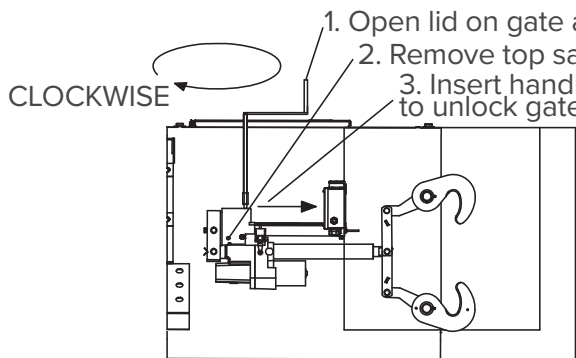

Figure 25
- 1. Unlock the gate** (Figure 25). Open the manual jack access cover located at the middle of the gate and remove the attached handle. Remove the top safety retaining pin from the rear of the manual Jack Support. Insert the handle onto the jack nut and crank the Jack (clockwise) fully open to unlock the gate.